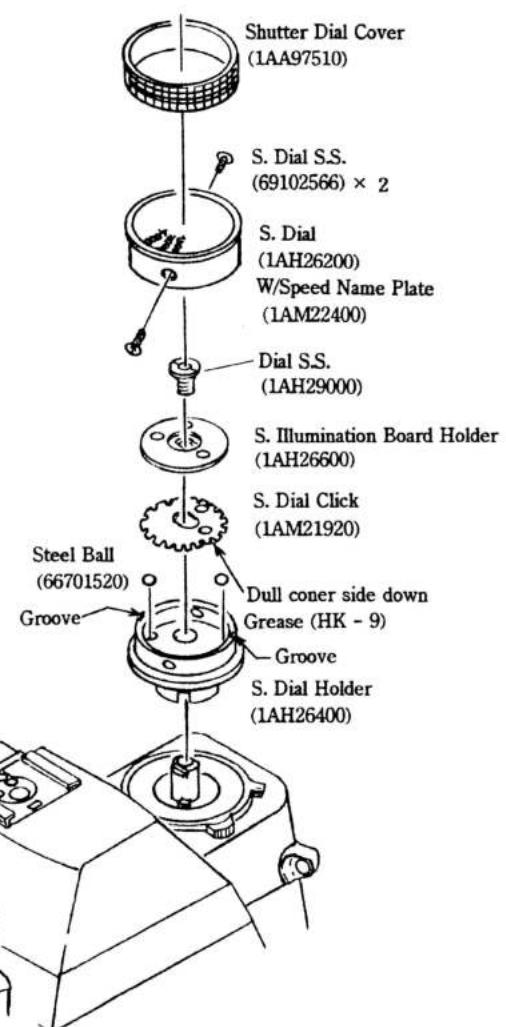

Fig. 5
- 4) Apply the Grease (HK - 9) to the grooves in the S. Dial Click (1AM21920) on its dull coner side and install it in the S. Dial Holder. In doing so, install the S. Dial Click in the position as shown in Fig. 5.
- 5) Install the S. Illumination Board Holder (1AH26600) in the position as shown in Fig. 5 and tighten the Dial Setscrew (1AH29000).